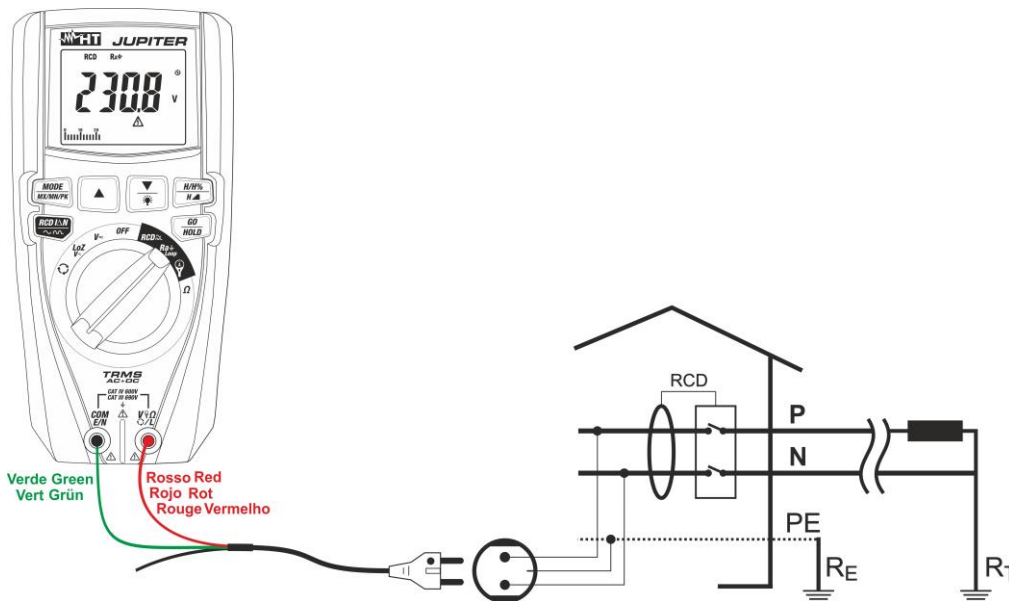

Fig. 17: Use of the instrument for measuring overall earth resistance with Schuko cable.
5. In case the cable with Shuko plug is used, insert the red conductor into input terminal **V $\overline{\Omega}$ L** and the green conductor into input terminal **COM/E/N** and connect the instrument to the system to be tested (see Fig. 17). The value of voltage Phase-Earth is shown on the display